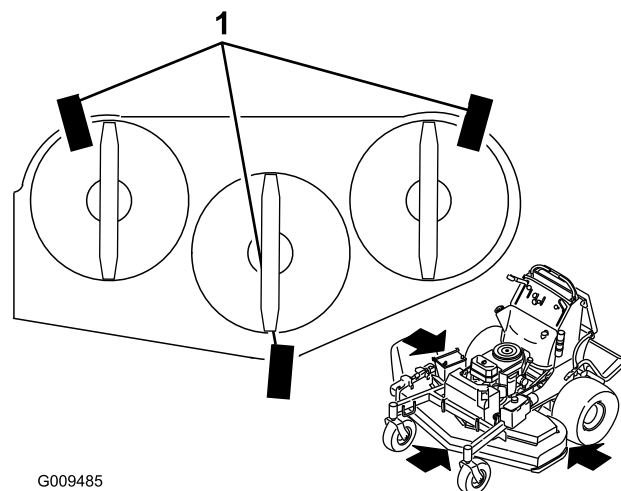

Figure 80
1. Place 3 pieces of 2x4 wood under the mower deck as shown in Figure 80. Stand the 2x4's on the 4 inch part.